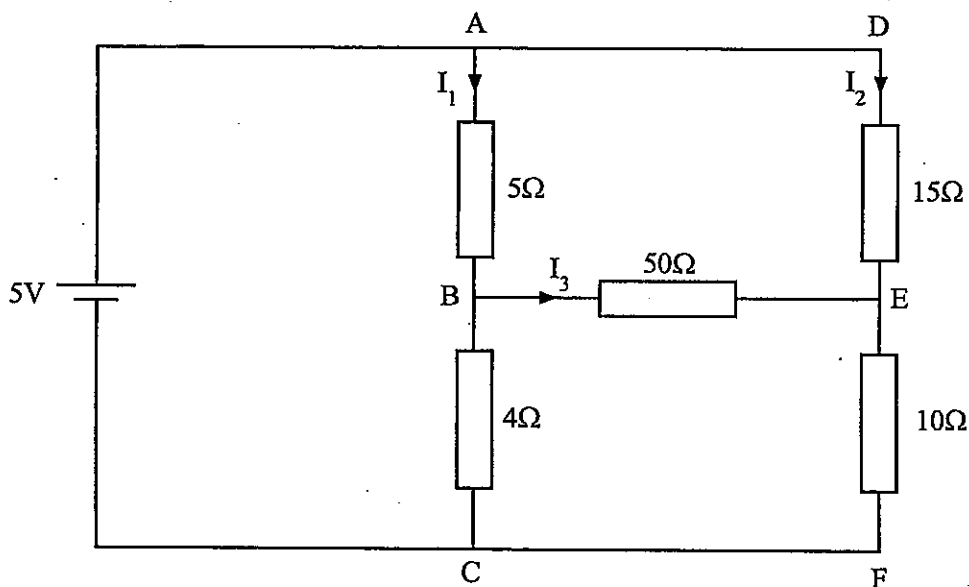

Fig Q1
1. (a) Calculate the currents  $I_1$  and  $I_3$ , shown in Fig Q1. (12)
- (i) the p.d. across points A and E; (2)
- (ii) the p.d. across points C and E. (2)